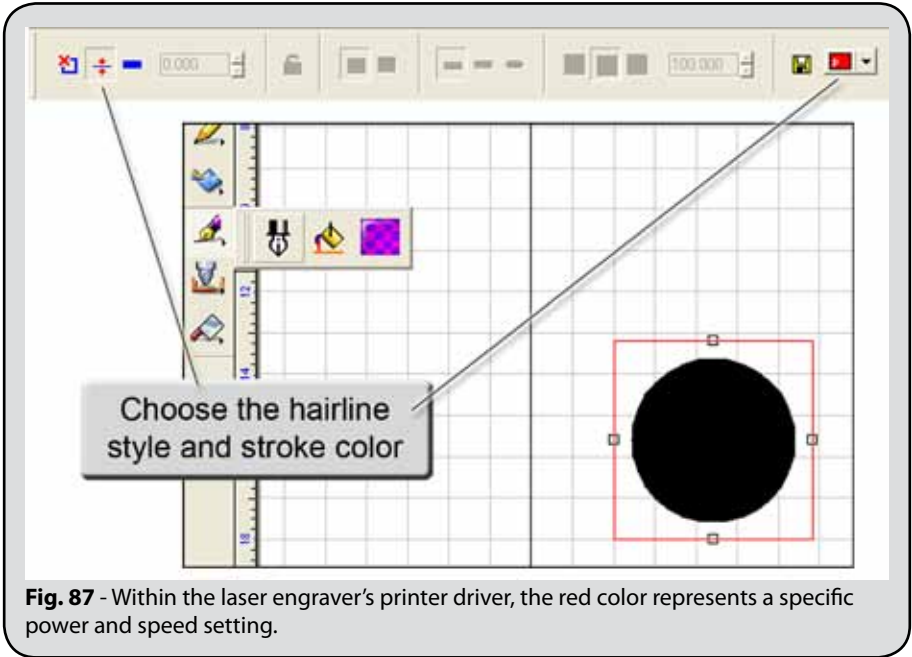

Fig. 87 - Within the laser engraver's printer driver, the red color represents a specific power and speed setting.
7. In the SmartBar, choose a **Hairline** style, and set a red stroke color (Fig. 87).